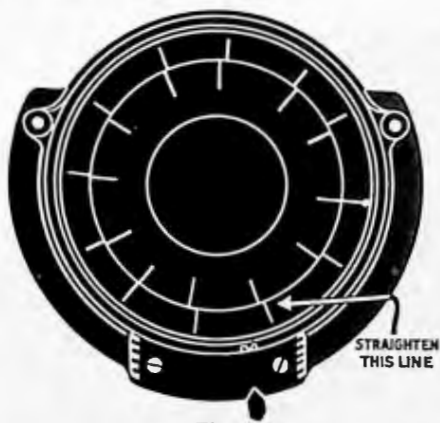

Fig. 3
- 59 Synchronize the points by loosening the screws holding the movable plate in the base of the distributor until the broken line nearest and to the right of the peep sight is straightened into one continuous line. See Fig. 3.